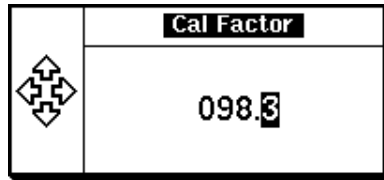

Figure 6-4 Calibration Factor pop-up window
- 10** If required, change this setting by pressing the channel **Cal Fac %**. The calibration factor pop-up window is displayed as shown in **Figure 6-4**.